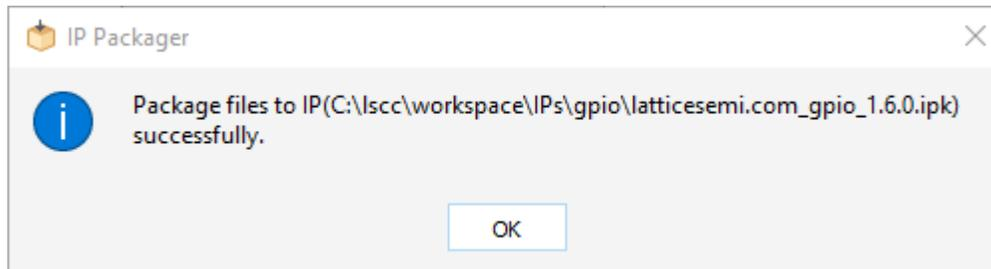

Figure 3.32. IP Packager Pops up Successful Packaging Message
2. IP Packager pops up a message showing the packaging is completed successfully (Figure 3.32).